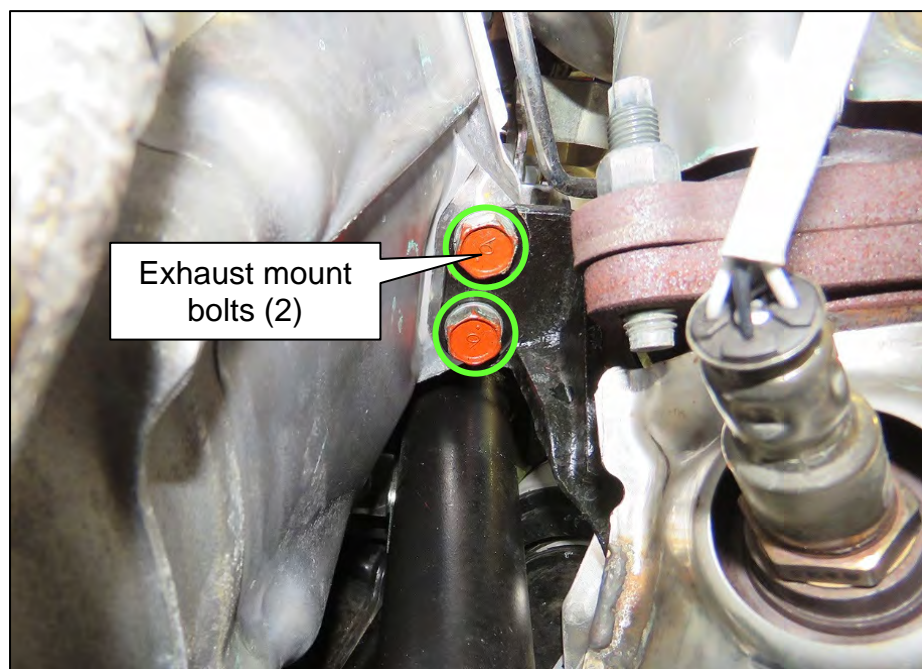

Figure 63
98. Reinstall the two (2) exhaust mount bolts shown in Figure 63 finger tight.